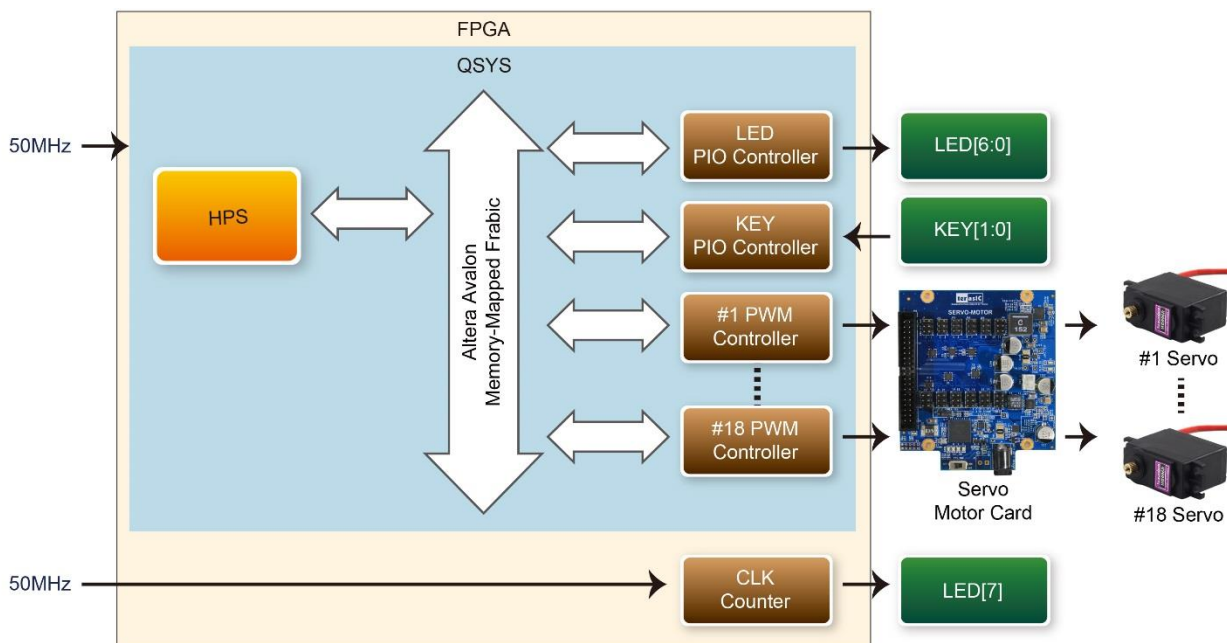

Figure 3-1 Block diagram of the Spider FPGA project
**Figure 3-1** shows the block diagram of FPGA Quartus project for the Spider. The project is created in Qsys. The PWM controllers designed by Terasic in Qsys are used to control the 18 servo motors. The PIO controllers for LED[6:0] and KEY[1:0] in Qsys are also included and connected to the HPS, so the HPS/ARM can access these peripherals. The LED[7] is connected to a counter as a system heartbeat. When the FPGA is configured with this Quartus Project, LED[7] will blink.